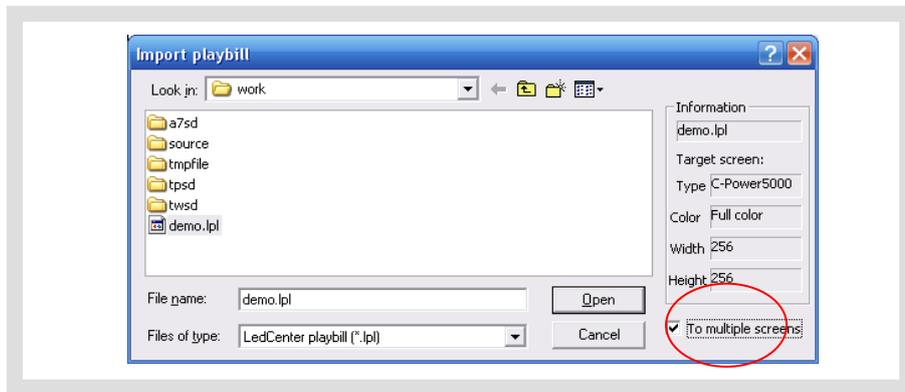
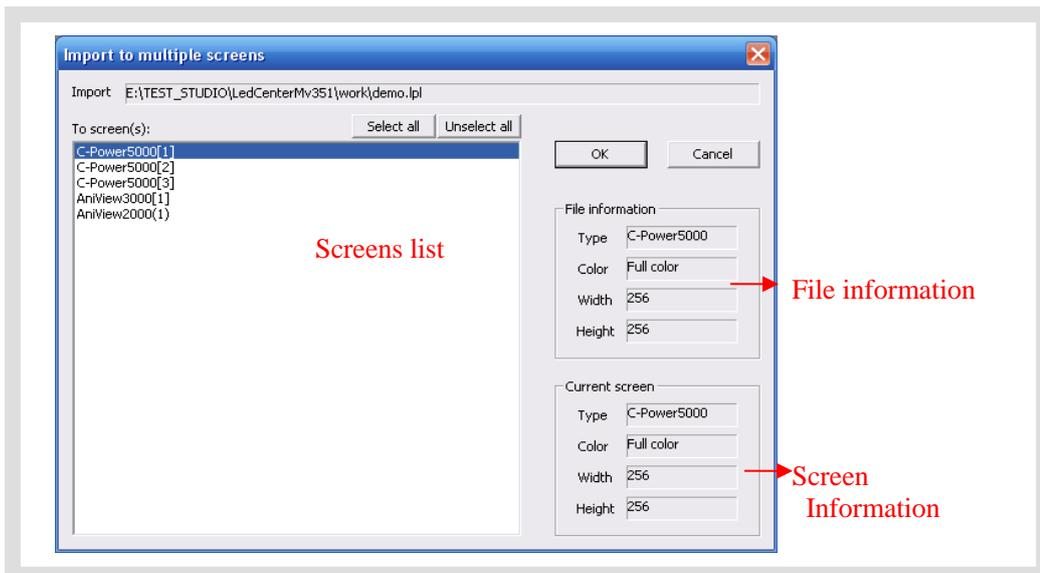

Figure52 Import message
Figure53 Import to multiple screens
- 2) In the dialog box “Import message” (as shown in Figure52), select the program file (\*.lpl) to be imported. The “Information” at right side of the dialog box shows the screen parameters of the program file. Confirm the imported program consistent with the parameters of current screen.
- 3) Import to multiple screens: if select the option “To multiple screens” as shown in Figure52, a dialog box “Import to multiple screens” as shown in Figure53 pops up after a file is selected. Hold Ctrl key and click the screen list, user can select multiple screens, and then import the program file to multiple screens.